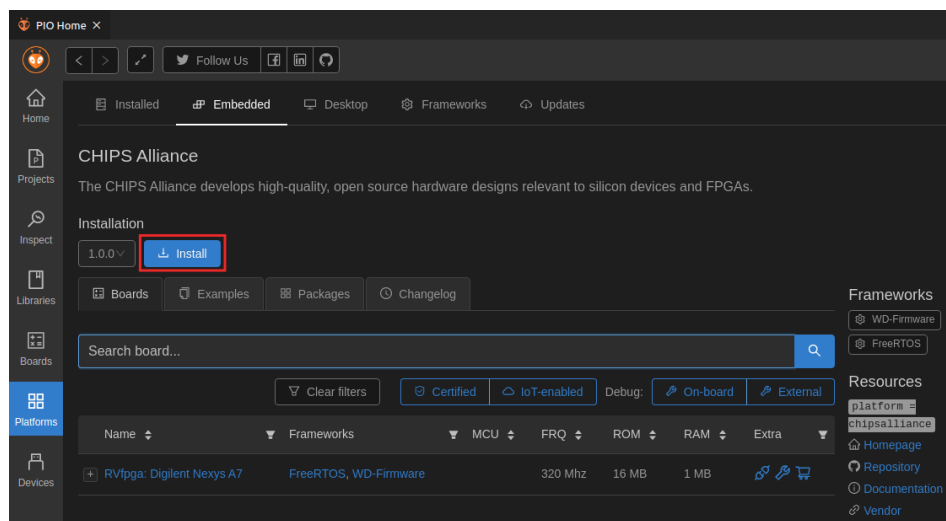

Figure 42. Installing the CHIPS Alliance Platform
- After clicking on the **CHIPS Alliance** button, you will see the details of the Chips Alliance platform (as in Figure 42). Install it by clicking on the  button (Figure 42).